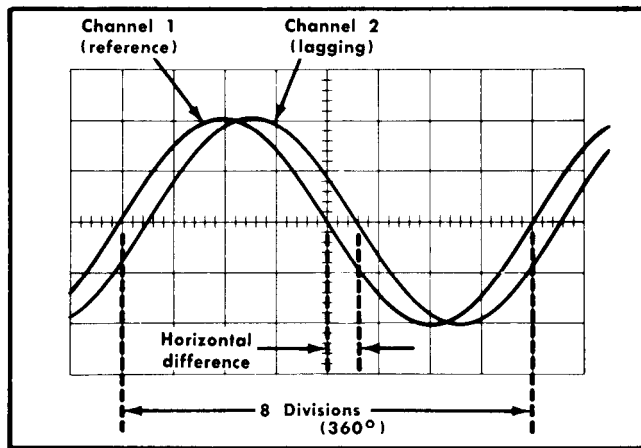
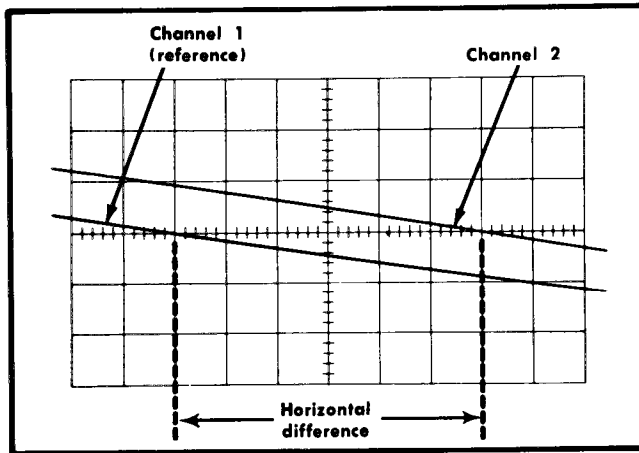

Fig. 2-24. Measuring phase difference.
Fig. 2-25. High resolution phase-difference measurement with increased sweep rate.
10. Turn the A VARIABLE control until one cycle of the reference signal (Channel 1) occupies exactly eight divisions horizontally (see Fig. 2-24). Each division of the graticule represents 45° of the cycle [$360^\circ \div 8 \text{ divisions} = 45^\circ/\text{division}$]. The sweep rate can be stated in terms of degrees as 45°/division.
Example. Assume a horizontal difference of 0.6 divisions with a sweep rate of 45°/division as shown in Fig. 2-24.
Example. If the sweep rate were increased 10 times with the magnifier, the magnified sweep rate would be $45^\circ/\text{division} \div 10 = 4.5^\circ/\text{division}$. Fig. 2-25 shows the same signals as used in Fig. 2-24 but with the MAG switch set to X10. With a horizontal difference of six divisions, the phase difference is: